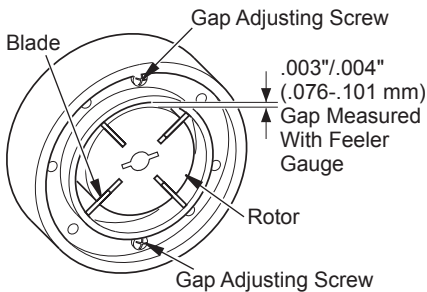

Figure 30 - Gap Adjusting Screw Locations
9. Check gap on rotor. Adjust to .076/.101 mm (.003"/.004") if needed (see Figure 30, page 15).